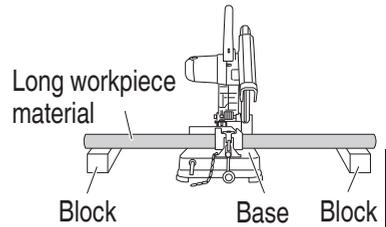

Fig. 9
4. Cutting long workpiece materials (**Fig.9**)